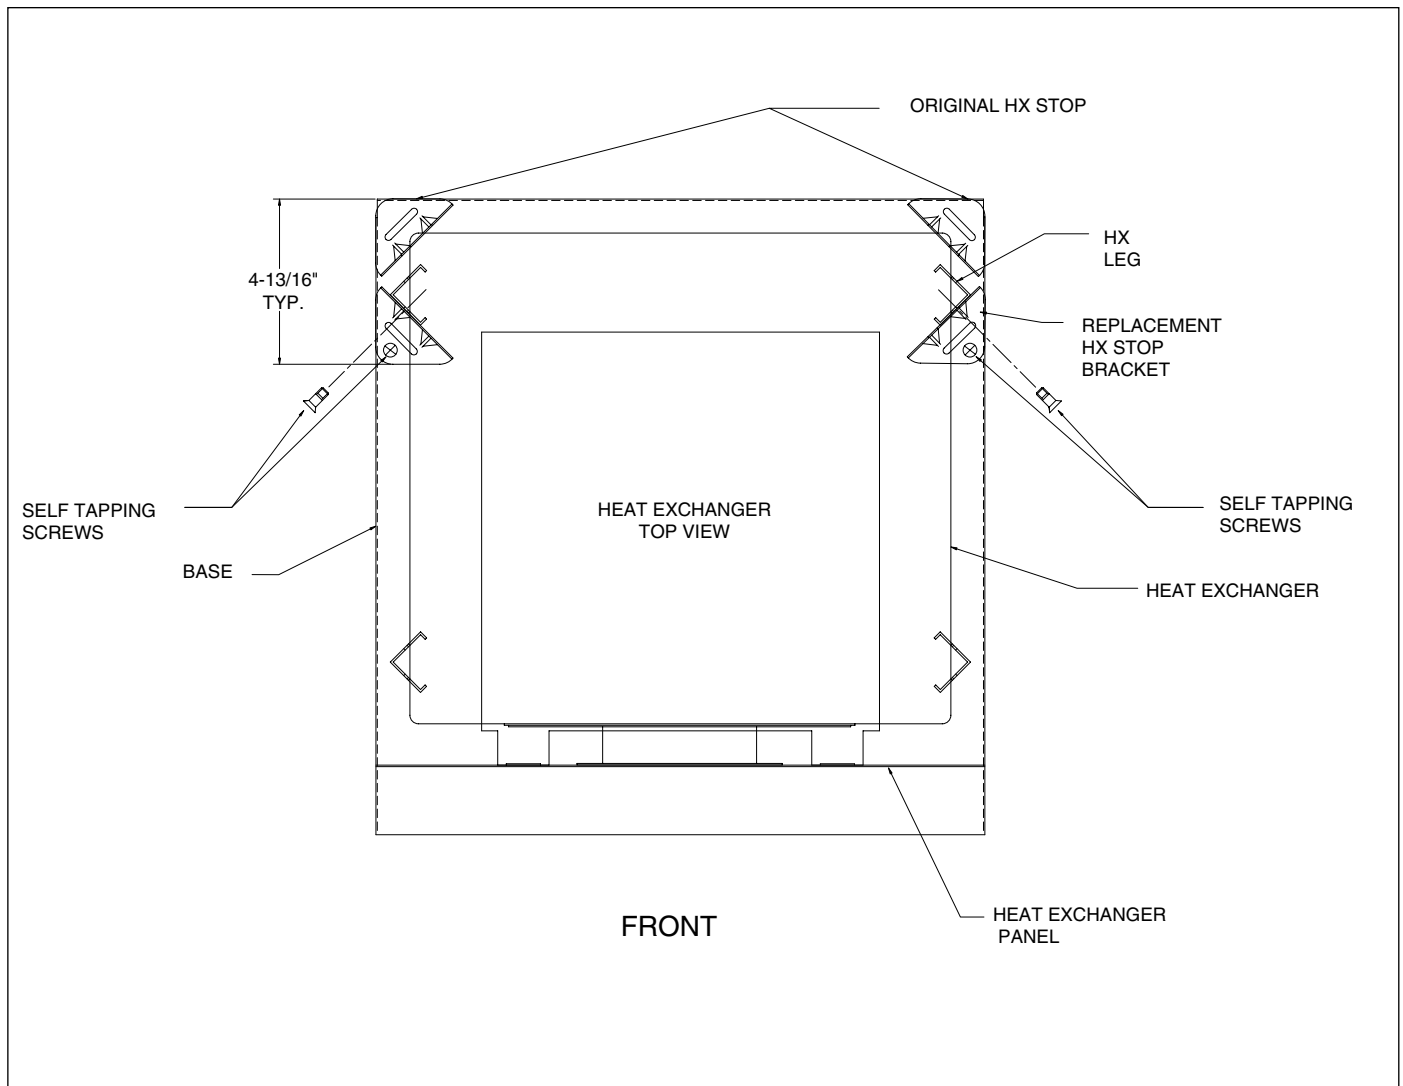

Figure 1. Heat Exchanger Assembly on Base
- O. Use the 2 new stops and self-drilling screws to attach the new heat exchanger to the base (See Figure 1). **DO NOT USE THE OLD STOPS!**